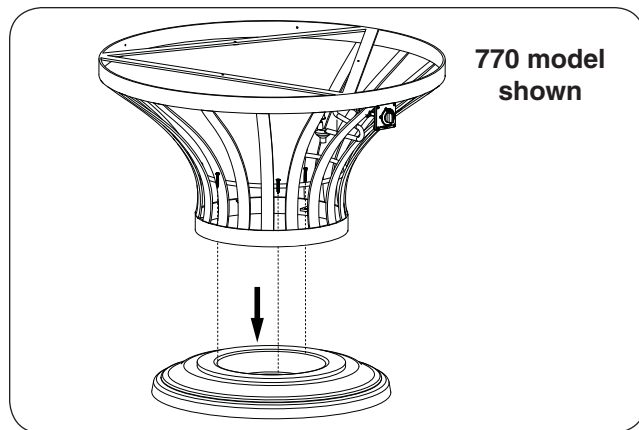

Fig. 21-1 Place base and fasten
1. **CAREFULLY** place the base bottom and base in an appropriate location (see Fig. 21-1, and refer back to the LOCATION section if needed).
2. Use a Phillips screwdriver and the supplied concrete screws (3) to fasten the base bottom to the base as shown in Fig. 21-1.